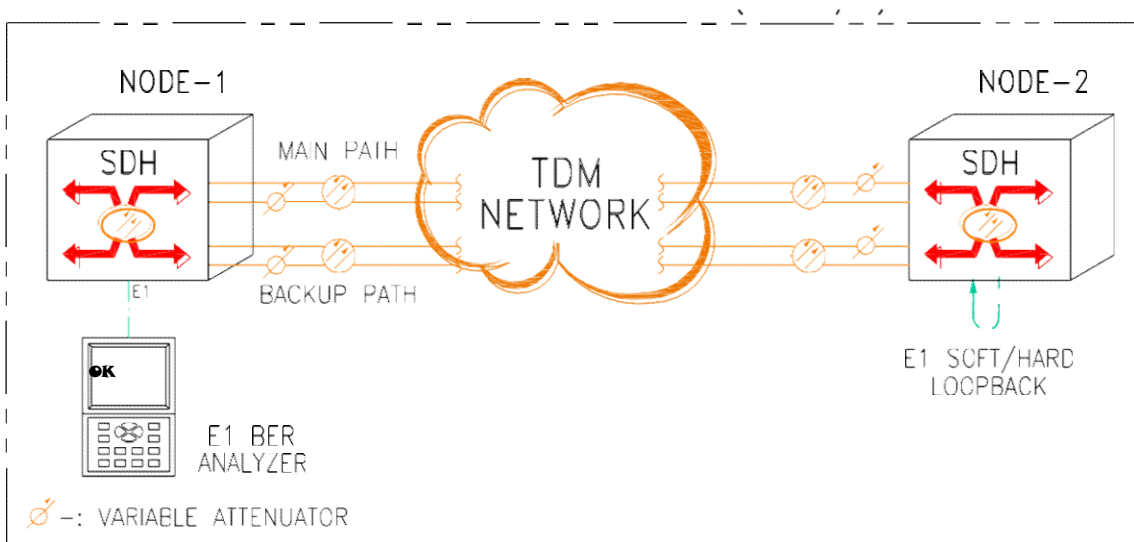

Figure 1: MSP Protection Test E1
- Make the test setup as shown in Figure 1.